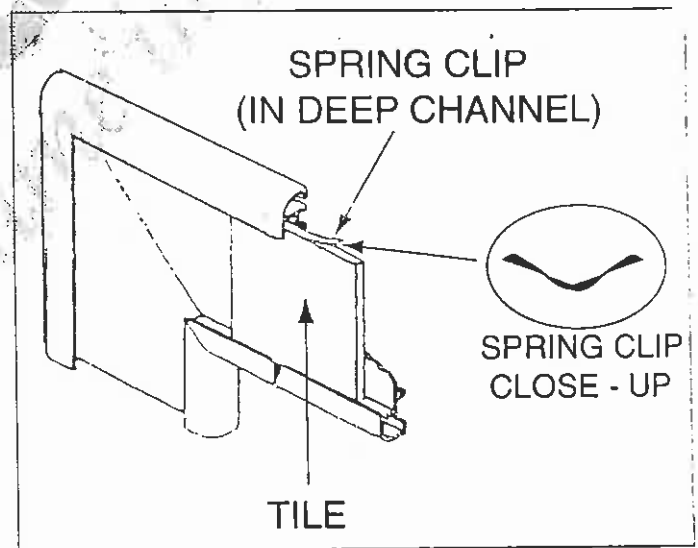

Figure 3
- Place a Spring Clip into the deeper of the [2] Channels in the Surround Front. See Figure 3.